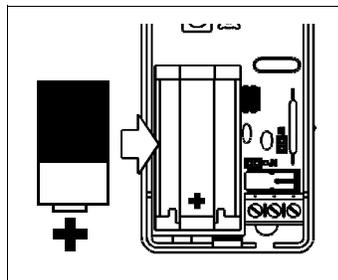

Fig. 3. Installing the battery
- Insert the battery.** Observe battery polarity. Insert battery with positive (+) terminal toward terminal block. See Fig. 3. The battery will not make contact if inserted backwards.